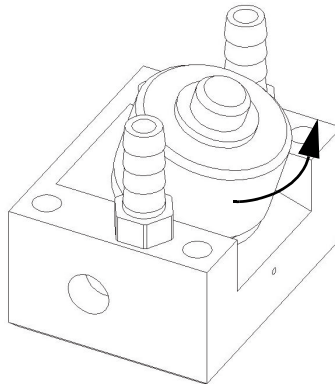

Figure 2-28 Unscrewing the transducer
8. Ensure that the transducer cable is disconnected, and then unscrew the transducer from the wedge (see Figure 2-28 on page 44).